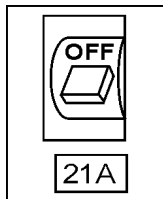

Figure 10. Main Circuit Breaker (OFF Position)
2. **NEVER** start the engine with the main circuit breaker in the "ON" position. Always place this circuit breaker (Figure 10) in the **OFF** position before starting.